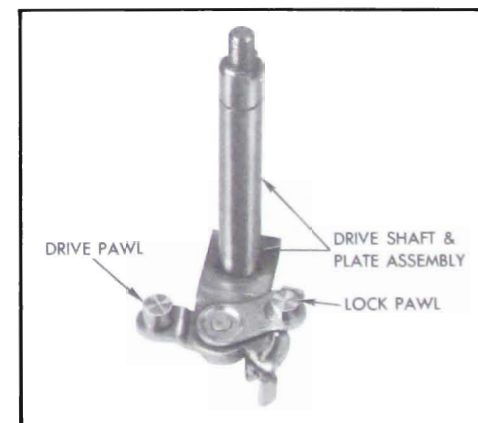

Figure 10-128—Assembly Lock Pawl Over Drive Pawl
2. Assemble lock pawl over pawl as shown in Figure 10-128.